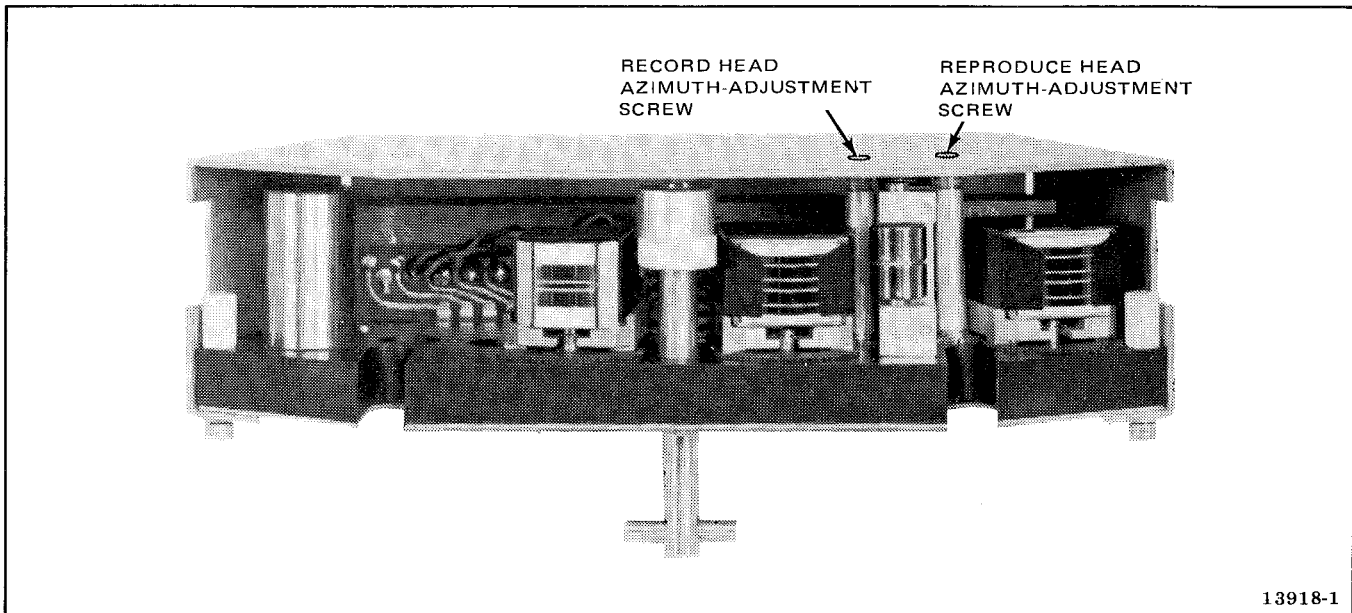

Figure 5-11. Azimuth Adjustment Screw Location
**5-33. Head Azimuth and Phase – General Discussion.** The only head adjustment required is for record and reproduce head stack azimuth. Precision mounting of the record and reproduce head stack has eliminated the need for adjusting tape wrap, height, and zenith. The azimuth adjustment is made by turning a hex socket screw accessible through the top of the head shield (Figure 5-11) which causes a tapered gear to rotate underneath the head-stack precision plate. The azimuth adjustment is adjustable over a range of  $\pm 15$  minutes of arc.
10. While reproducing the highest frequency tone on the alignment tape (7.5 kHz at 3.75 in/s or 15 kHz at 7.5, 15, and 30 in/s), adjust the reproduce head azimuth screw (Figure 5-11) for maximum output.
2. As a preliminary adjustment, turn reproduce head azimuth adjusting screw (Figure 5-11) so that reference hole in tapered gear is in front of the head-gap region.